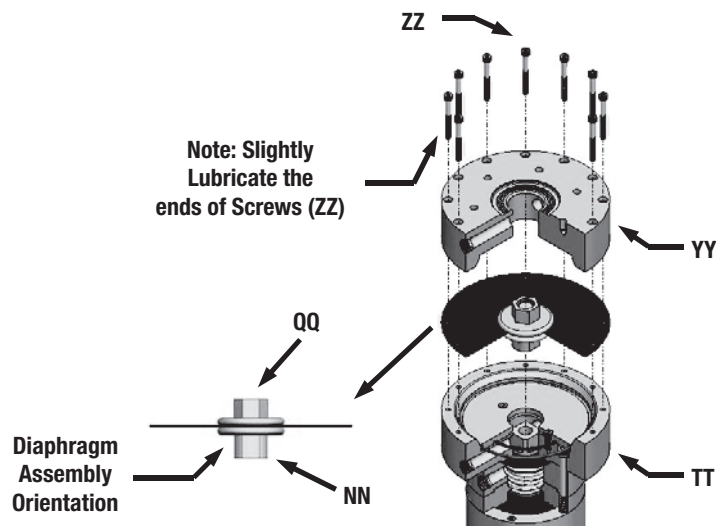

Figure 29
- A. For a Low Gain Pilot (Figure 29), place Diaphragm Assembly #3 on top of the Lower Feedback Chamber (TT). Bolt Diaphragm Assembly #3 in between the Lower and Upper Feedback Chambers (TT and YY) with 12, 8-32 x 1 3/4" SHCS (ZZ). Move to Step 51.